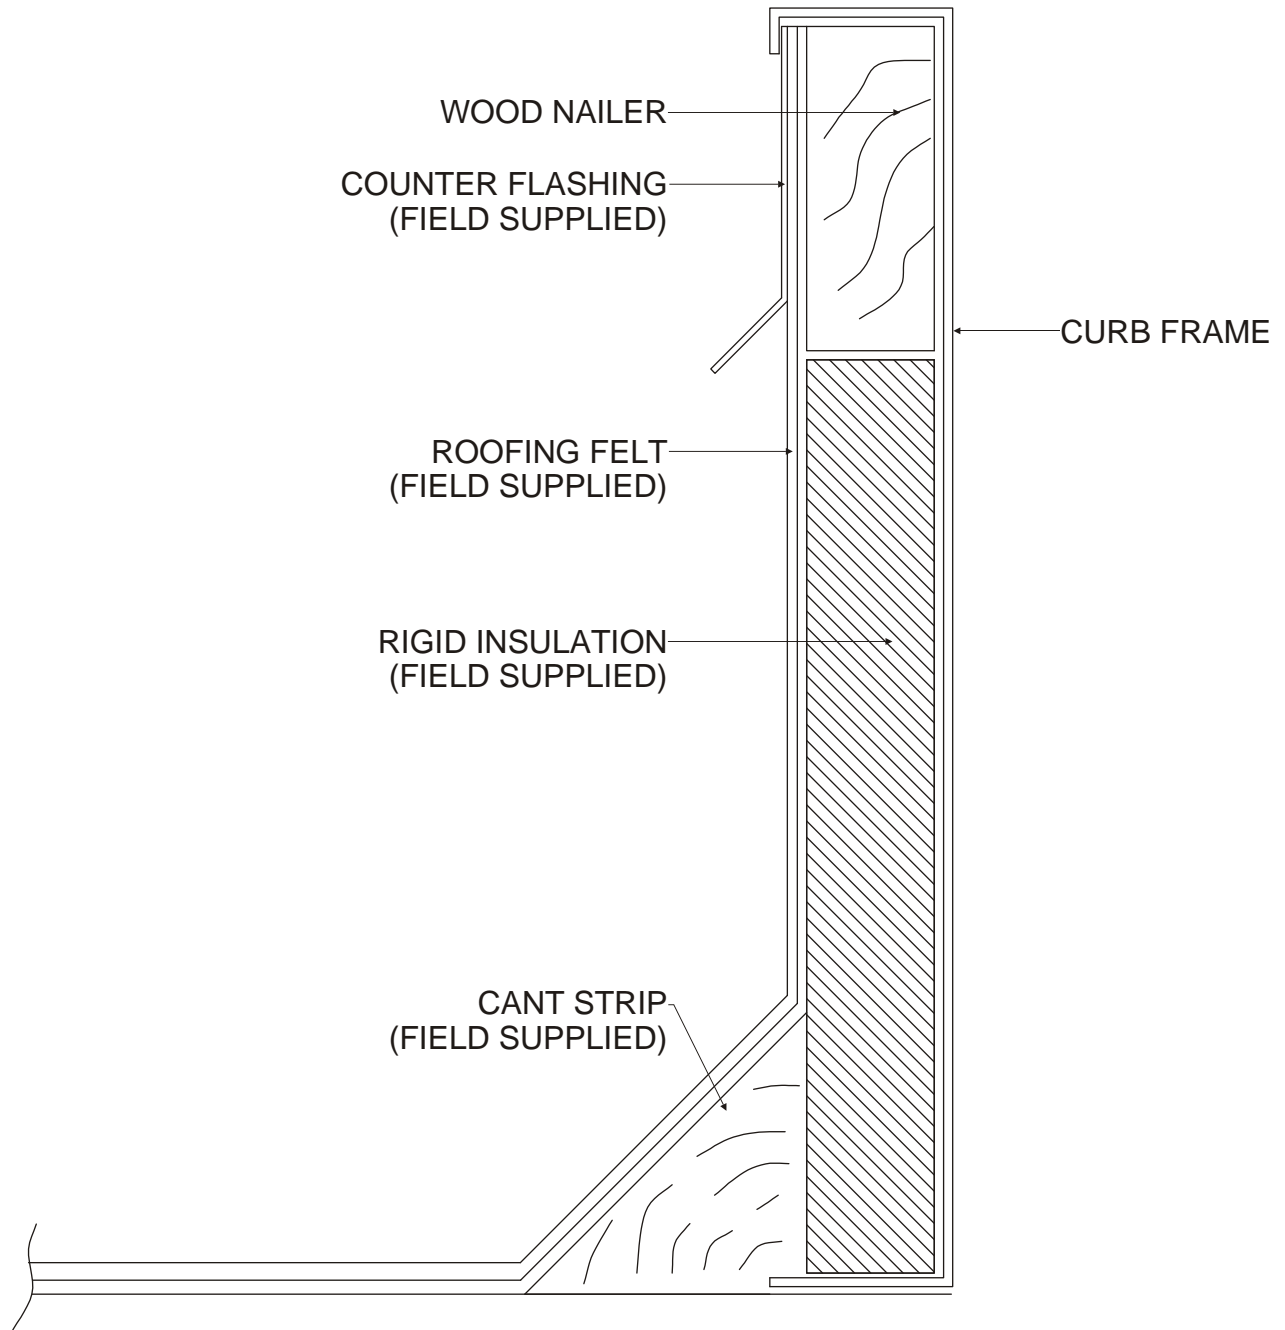

Figure 5
2. Counter-flash and seal around frame as shown in Figure 5.